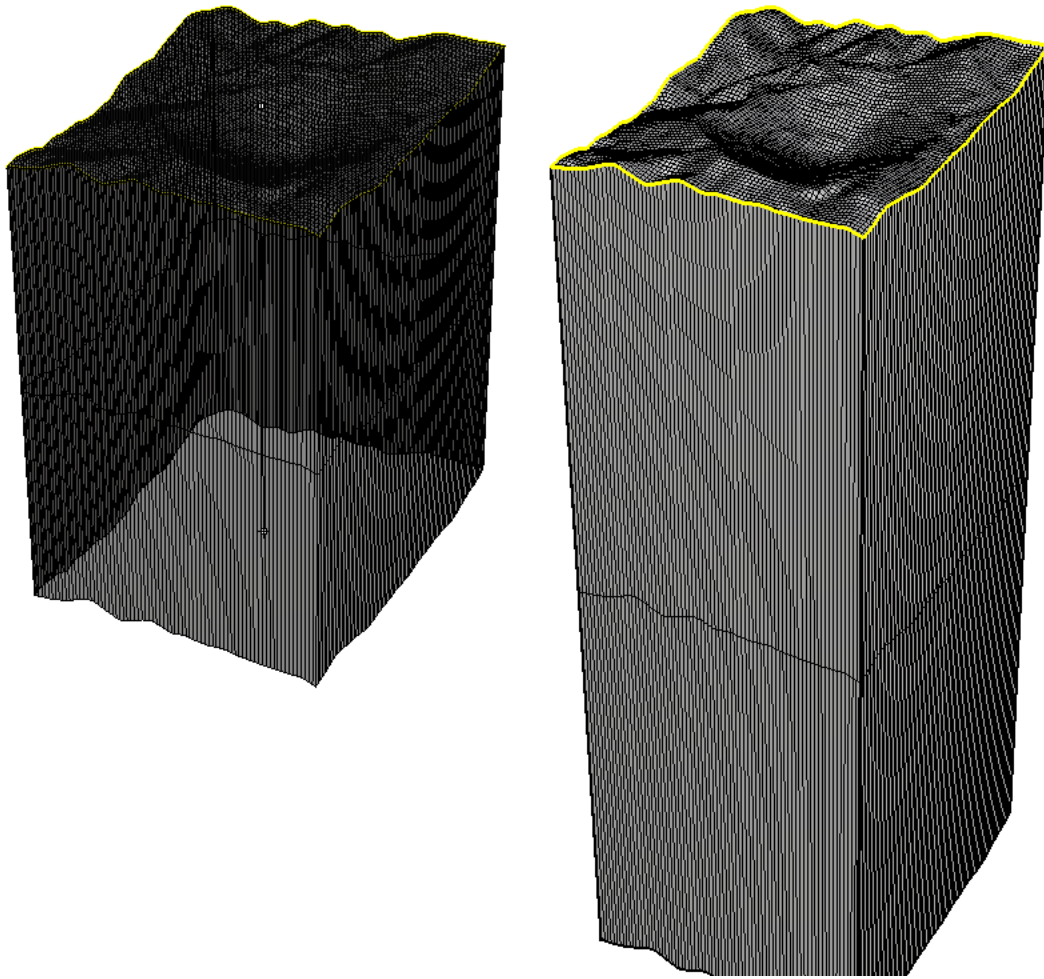

Figure 154: Extruding the surface.
3. While the border **curve** is selected, **zoom away** to give yourself more room, then **Surface | Extrude Curve | Straight (Option Both sides=No)** and **drag** the curve **down** as much as possible, then click the left mouse button to stop the extrusion right there. You have created the vertical walls of the model (Figure 154).